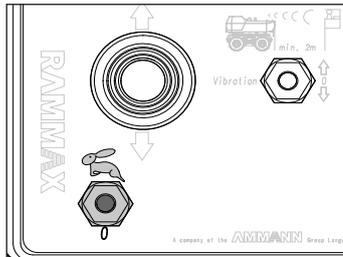

Fig. SE23 Fast traverse switched off
- Fast traverse switched off (Fig. SE23)